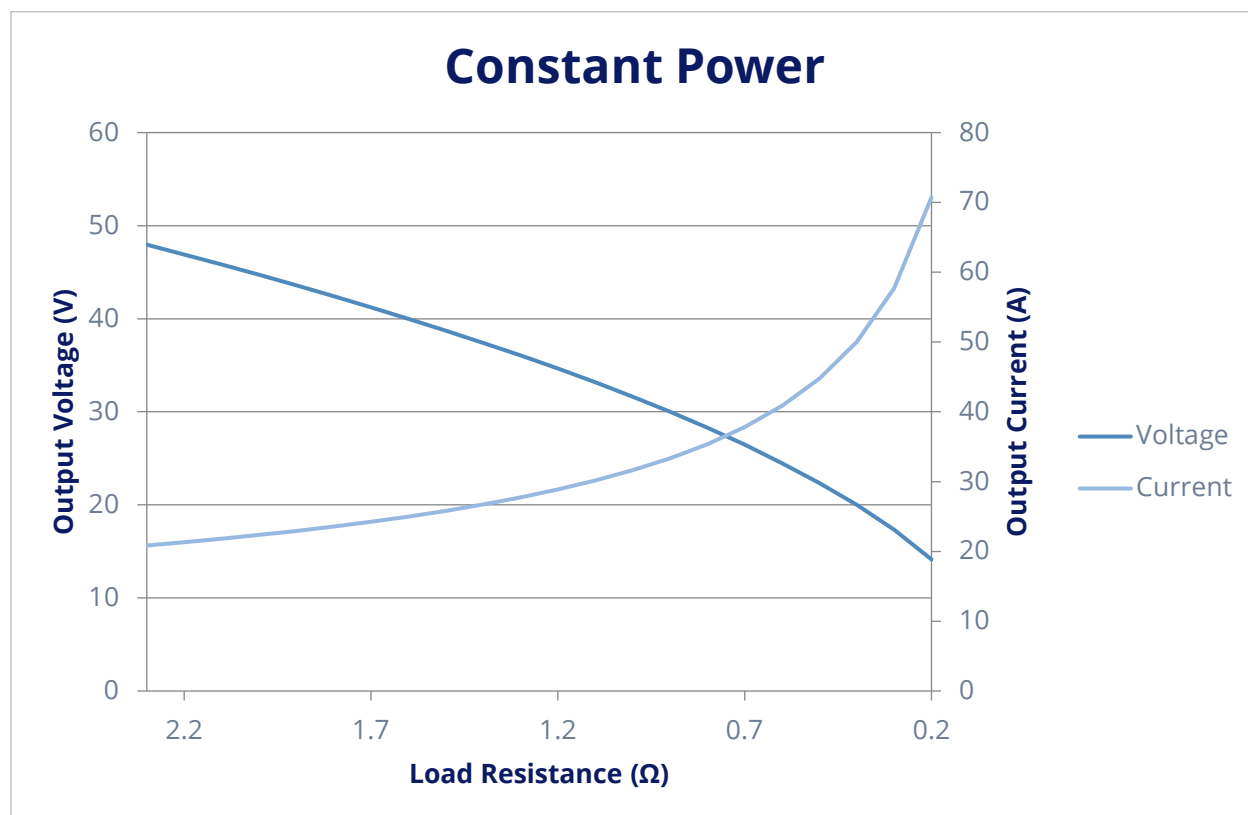

Figure 7 – Constant Power Output
So far, we have covered power supplies that can regulate based on current, voltage, or both. To limit the output power, and therefore input power, a third operating mode is introduced: Constant Power (CP). While operating in Constant Power mode, the voltage is controlled such that the output power remains constant. In Figure 7 we keep our original voltage set point of 48V, the current setpoint of 80A, but now program the power set point to 1 kW. For each load resistance shown, the product of the output voltage and current equate to 1kW.